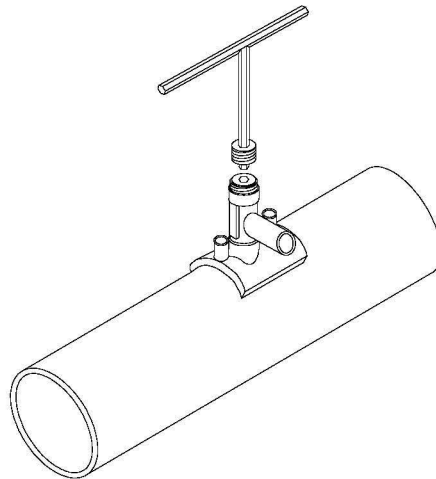

Figure A15 – 63mm Tap Tee with Drill Guide Follower.
2. When cutting through the wall of large diameter SDR11, the torque required will be higher than a 32mm outlet-tapping tee. To minimise the risk of stripping the moulded thread inside the stack section check that the tapping tee thread followers are present and follow the manufacturers instructions (Figure A15).